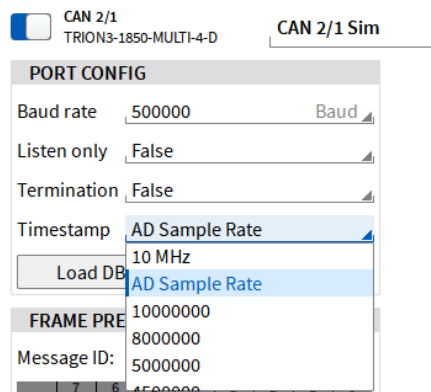

Figure 5-94: Timestamp Selection in the CAN channel menu
- Each CAN input channel on a TRION™ module has a 10 MHz timing clock integrated. If *10 MHz* is selected in the Timestamp dropdown menu in the CAN Channel Setup (see Figure 5-94), the data received by the CAN channel is clocked by using this timing source. The accuracy will be 100ns.
- If *AD Sample Rate* is selected in the Timestamp dropdown menu in the CAN Channel Setup (see Figure 5-94), the data received by the CAN channel is clocked by using this timing source as well. Within OXYGEN the timestamp which is assigned by the 10 MHz timing clock is rounded to the closest timestamp of the sample rate of the Analog input channel. (i.e. CAN-time stamp: 0.0038743s is rounded to 0.0039s of the analog channel with 10 kHz sample rate). If several TRION™-modules with different sample rates are used, the highest sample rate is used.